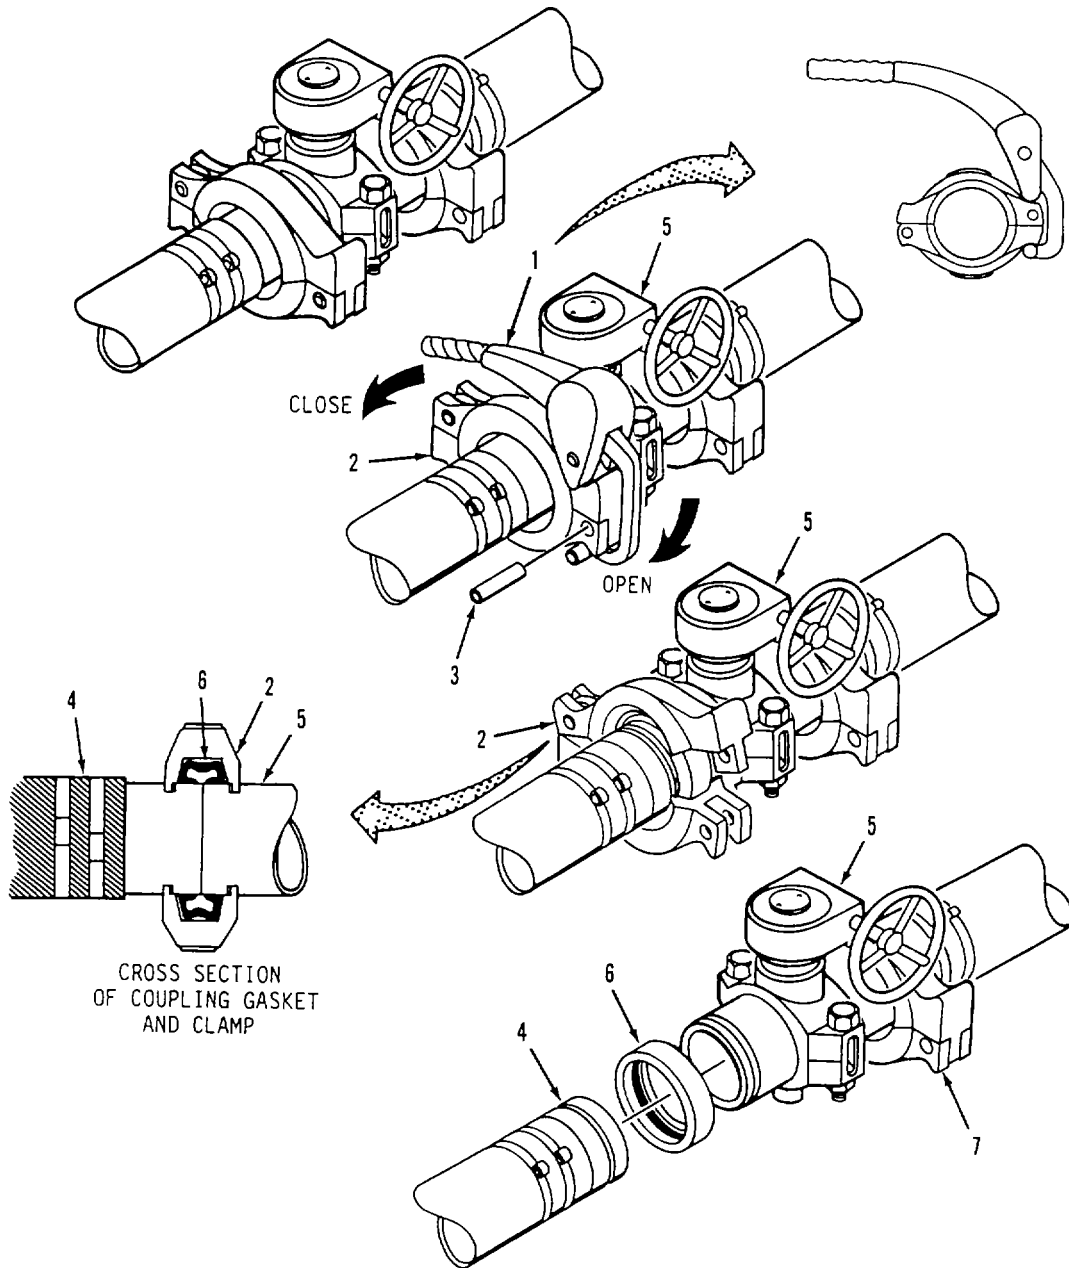

Figure 3-4. Coupling Clamp Component Removal.
a. **Removal.** Refer to figure 3-4.
- (1) Install assembly tool (1) on coupling clamp (2). Push assembly tool handle to the closed position.
- (2) Using a punch and hammer, drive out locking pin (3) from coupling clamp (2).
- (3) Pull handle of assembly tool (1) away from coupling clamp (2) and remove tool.
- (4) Open and remove coupling clamp (2) from hose (4) and butterfly valve (5).
- (5) Separate hose (4) from butterfly valve (5) and remove coupling gasket (6).
- (6) Repeat steps (1) through (5) for coupling clamp (7).
- (7) Remove defective butterfly valve (5) from water system.